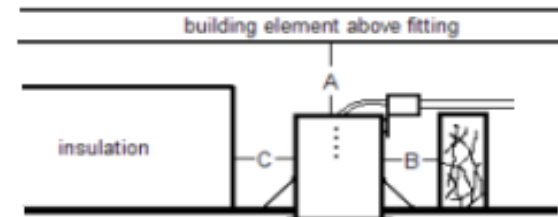

Fig. 1
Ensure there is a clearance of 50 mm above the luminaire, refer to Fig. 1. It is the installers' responsibility to ensure that the installation is safe and conforms to AS/NZS 3000:2007.
2. Select the required position for the luminaire ensuring the clearances shown in Fig.1 are adhered to. Beware of joists, water pipes and electric cables; cut a hole in the ceiling which matches to the type of downlight (see table below). For IP65 luminaires, ensure the contact area between the fitting and the ceiling is smoothed off.